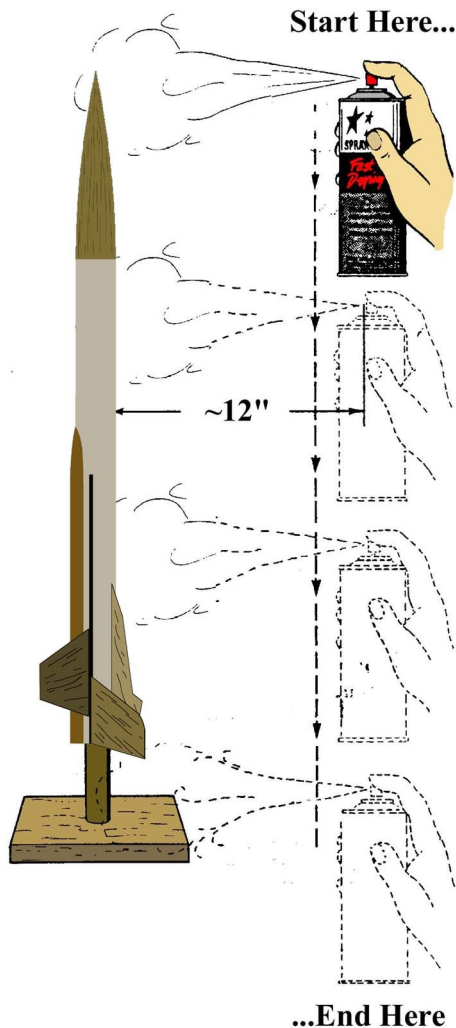

Figure 8
- **Step 21** The illustration in Fig. 8 shows the correct technique for spraying primer, paint, and gloss coat onto your model, regardless of the equipment used. Always spray from the top downward – never from bottom-to-top, or side-to-side.